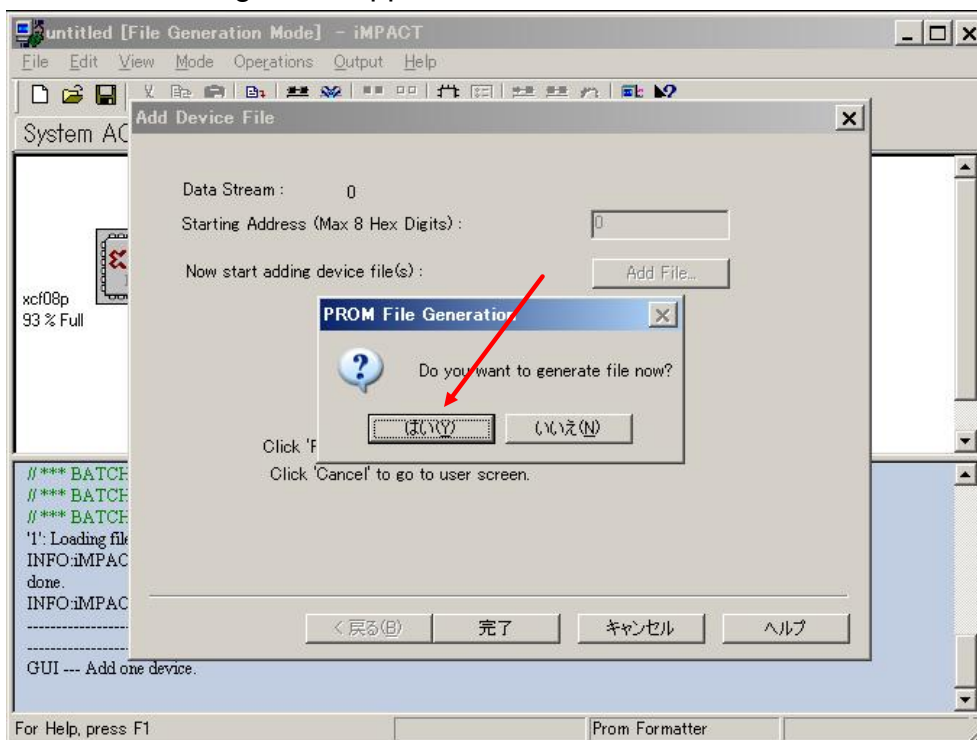

Figure.25
11) A screen as shown in Figure.25 appears. Click on the Yes button.